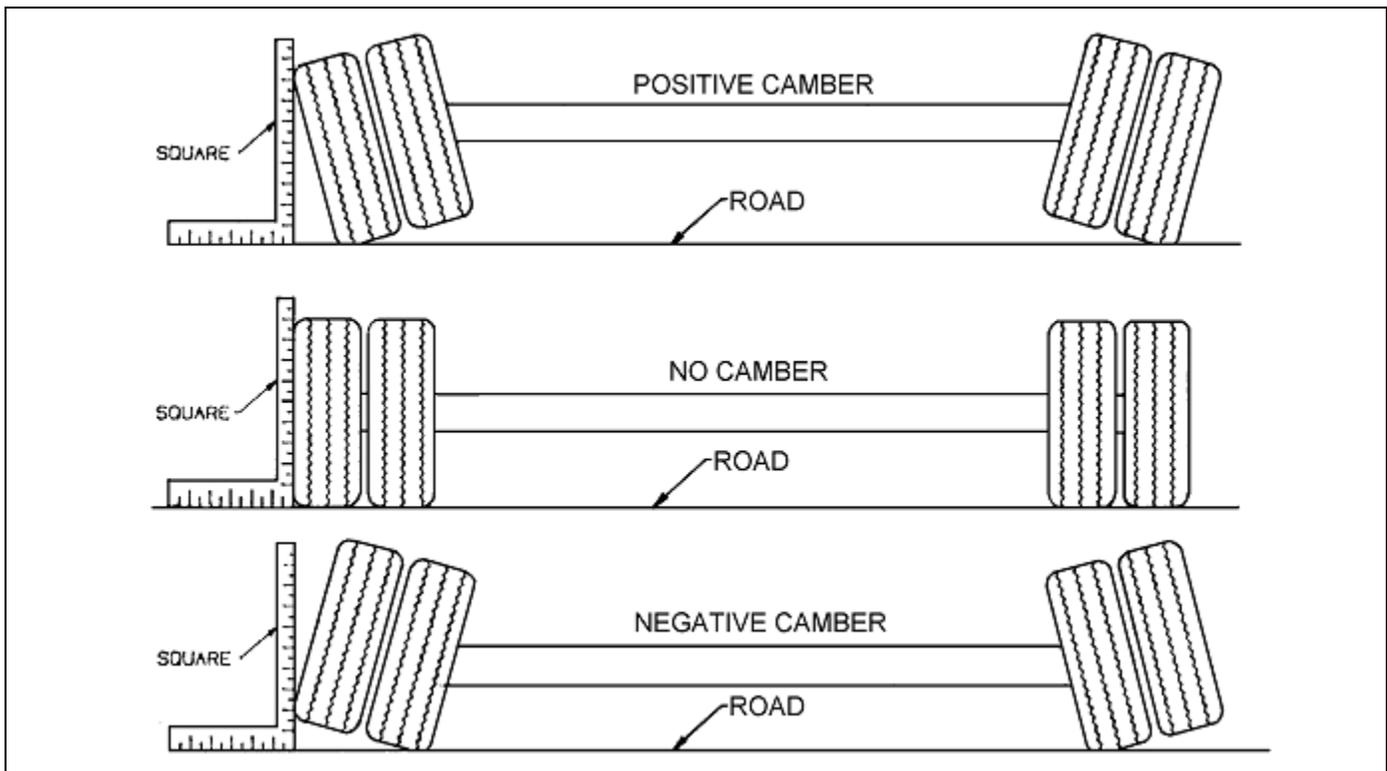

Figure 4-3: Examples of Camber
- Follow the same procedures as in **steps 2 and 3**, except place the axle gauge above and below the axle. If gauge point gap is found, the axle has positive or negative camber. The trailer axle has no camber from the factory. If it is found to have positive or negative camber, axle replacement is necessary. (See Figure 4-3) for examples of camber.